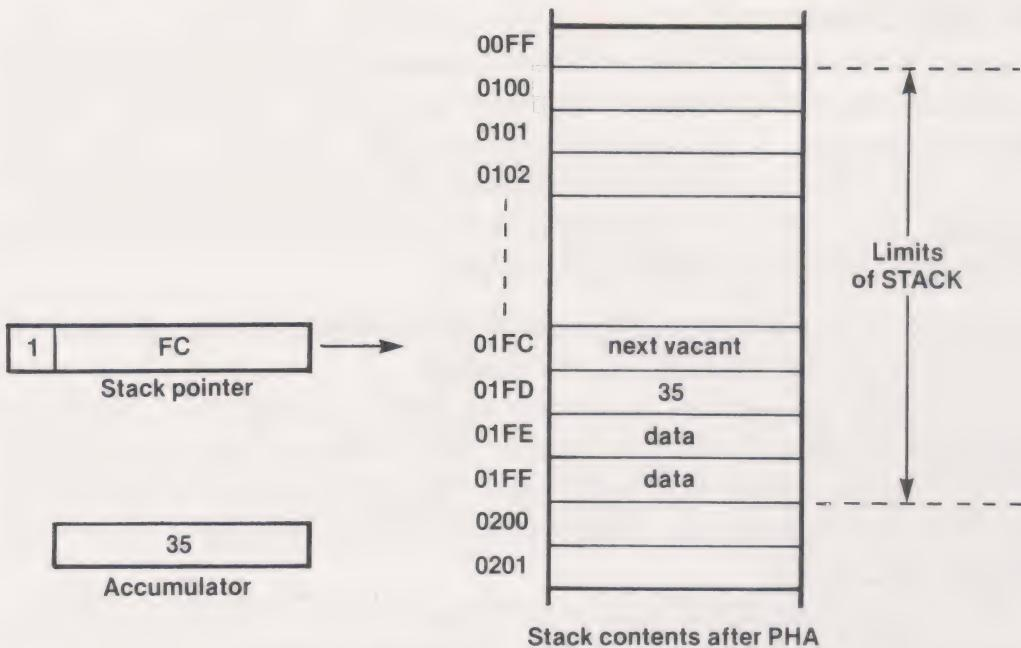

Fig. 2.3. The stack and stack pointer.
- (1) The contents of SP are interpreted by the microprocessor as the address of the currently vacant location in the stack.
- (2) To ensure the address is always on page 1, rather than page 0, a permanent 1 is hardwired at the msb end of SP acting as a ninth bit. Thus, if SP itself contains 0000 0011 (0003 hex), the address is interpreted as if it were 1 0000 0011 (0103 hex). That is to say, address 3 on page 1 rather than address 3 on page 0.
- (3) SP can be loaded initially to any address on page 1 but the method is a little cumbersome. There is no actual instruction to load SP directly. It is necessary first to load X and then transfer it to SP by the instruction TXS. This may seem a chore but in practice it may only have to be done once, during the initialisation phase of a complete machine code program. In fact, it would be generally unwise to tamper with SP at all when using the assembler because it will have been initialised by the ROM operating system. However, if you are brave enough to attempt circumvention, SP is normally initialised to FF hex in order to utilise the entire stack area.
- (4) Once initialised, the use of the stack is simplicity itself. If you want temporarily to save the contents of the accumulator, without having to specify a storage address, just push it on to the stack with PHA (Push A). To retrieve it again, pull it back with PLA (Pull A). It is not possible to push X or Y directly but it can be done piecemeal by first using TXA or TYA.
- (5) The stack is a LIFO, meaning Last In First Out, memory so you must pull data back with this in mind. After every push, SP decrements by 1 in order for the next push to operate on a new vacant location. When data is to be pulled back, SP first increments by 1 (in order to point to the last stored item) before the pull operates. The stack pointer automatically 'rises' with each push and 'falls' with each pull so there is no need to bother with SP (see Fig. 2.3). You can forget the existence of the stack pointer providing you remember that the *last item pushed* onto the stack from A will always be the *first item pulled* back into A.
- (6) The stack can only hold one page - 256 bytes, that is. If you overflow the stack, there is no friendly warning as in BASIC. All that happens is a 'wrap around' effect. For example, if SP is initially set to FF hex and data keeps piling on the stack, SP eventually reduces to 00. The next decrement wraps around to FF again causing weird and unexpected results. However, a 256 byte stack is normally more than ample for most programs and overflow conditions should be rare.